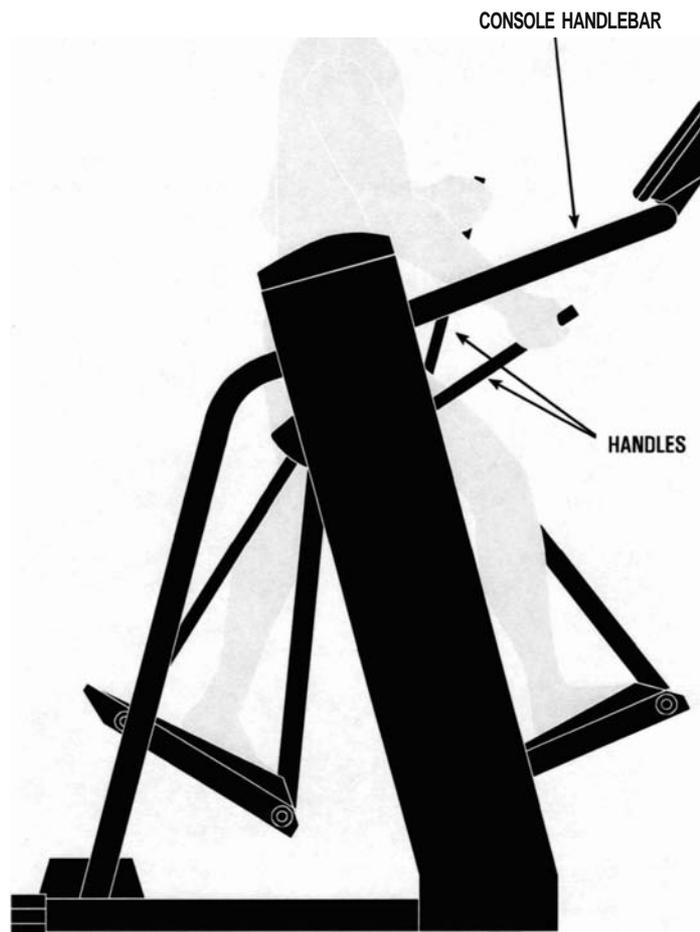

Figure 9: Correct Exercise Position
2. Relax and stand up straight while exercising. Use the handles for balance. If you do not have the handles engaged, use the console handlebar for balance (see Figure 9).